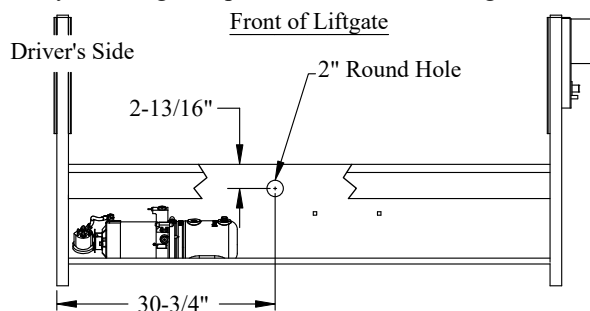

Figure 14: Spare tire access location for Toyota trucks.
2. **Remove and Discard** the black plastic plug(s) from the mainframe at the location shown (Figure 14).